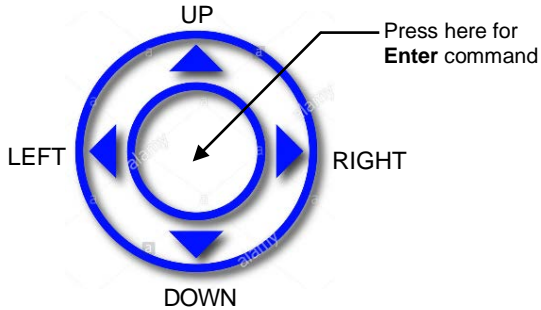

FIGURE 6: JOYSTICK
6.3 Meter Process Information (PI) screens
Based on meter configuration, different parameters may be displayed in the Process Information (PI) screen by moving the control joystick (see **Figure 6**) **Up** or **Down (DN)**. Process Information screens can be configured to be static or dynamic (see **Section 6.4.13.2** “Display and Process Information (PI) Screens”). Using PI Screen Mask settings, the user can enable (unmask) or disable (mask) up to 6 different process information combinations.